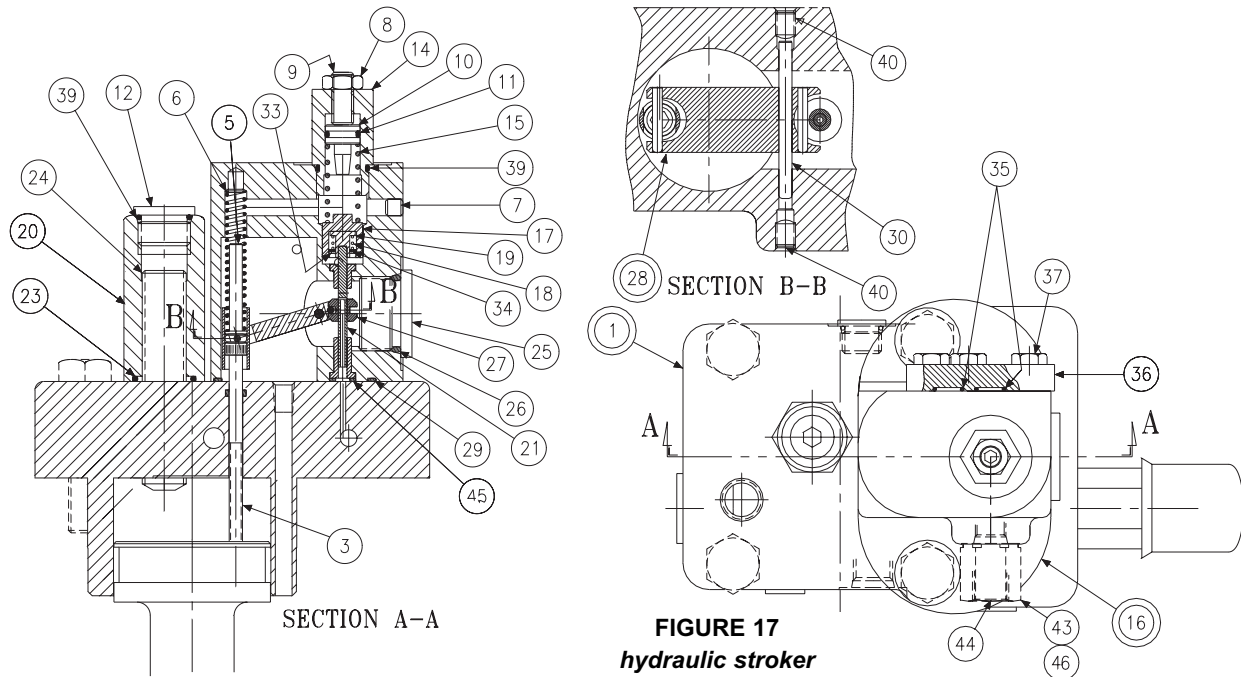

FIGURE 17
PARTS LIST FOR FIG. 17
1. See figure 17. Remove 2 screws holding body (16) to cap assembly (1).
2. Remove all parts from body (16) except pin (30) and arm assembly (28). It is not necessary to remove these parts unless broken or worn. Examine parts for wear or damage.
3. Remove screw (3). Examine head for excessive wear, and body for smooth sealing surface with O-ring.
2. Install spool (6) into bore as shown. Install spring (11) over end of spool.
3. Install O-ring (8) on spring retainer (7). Install retainer (7), screw (13), and nut (14) in plug (4).
4. Install O-rings (10) and (15) on plug (4). Install plugs (4) and (12) in body (1). Install .047", 1,19 mm orifice (19), and .071", 1,98 mm orifice (20) and plugs (2) and (17). Torque plugs. Install O-ring (21) in cap.
5. Turn screw (13) in until spring retainer (7) contacts spring (11). Turn an additional 1-1/2 turns and lock in position.
8. See figure 17. Apply thread locking compound on threads of screw (3), lubricate the shank, thread through the cap into the control piston, and torque to 5 lb.·ft., 6,78 Nm.
9. Install minimum stop screw (24) and turn clockwise to stroke pump to full volume. Measure height from control cap to top of screw (3). With control piston at full displacement, dimension must be .74 +/- .03 in., 18,8 +/- 0,76 mm. Back out minimum stop screw (24) till there is no contact with control piston.
10. Press dowel (30) into body (16), through the link (28), to 1/4", 6,35 mm below surface. Apply hydraulic sealant to threads of screws (40) and install over dowel (30).
11. Press spool (21) into retainer (19). Caution: do not use excessive force. Place spool/retainer assembly into spool (17) with spring (18) and washer (34). Secure with retaining ring (33).
12. While sleeve (27) is engaged into dowel on link (28), slide above spool assembly into bore of body (16), and through sleeve (27). Spool (21) must move freely and easily at all positions of the link (28).
13. Assemble all other components into body (16) per above drawing. Torque plug (12).
14. While spring retainer is engaging clevis pin (5) under dowel of link (28), slide the other opening of spring retainer over the top of the screw (3). Attach body assembly (16) to cap (1) with two screws and torque to 75 lb.·ft., 102 Nm.